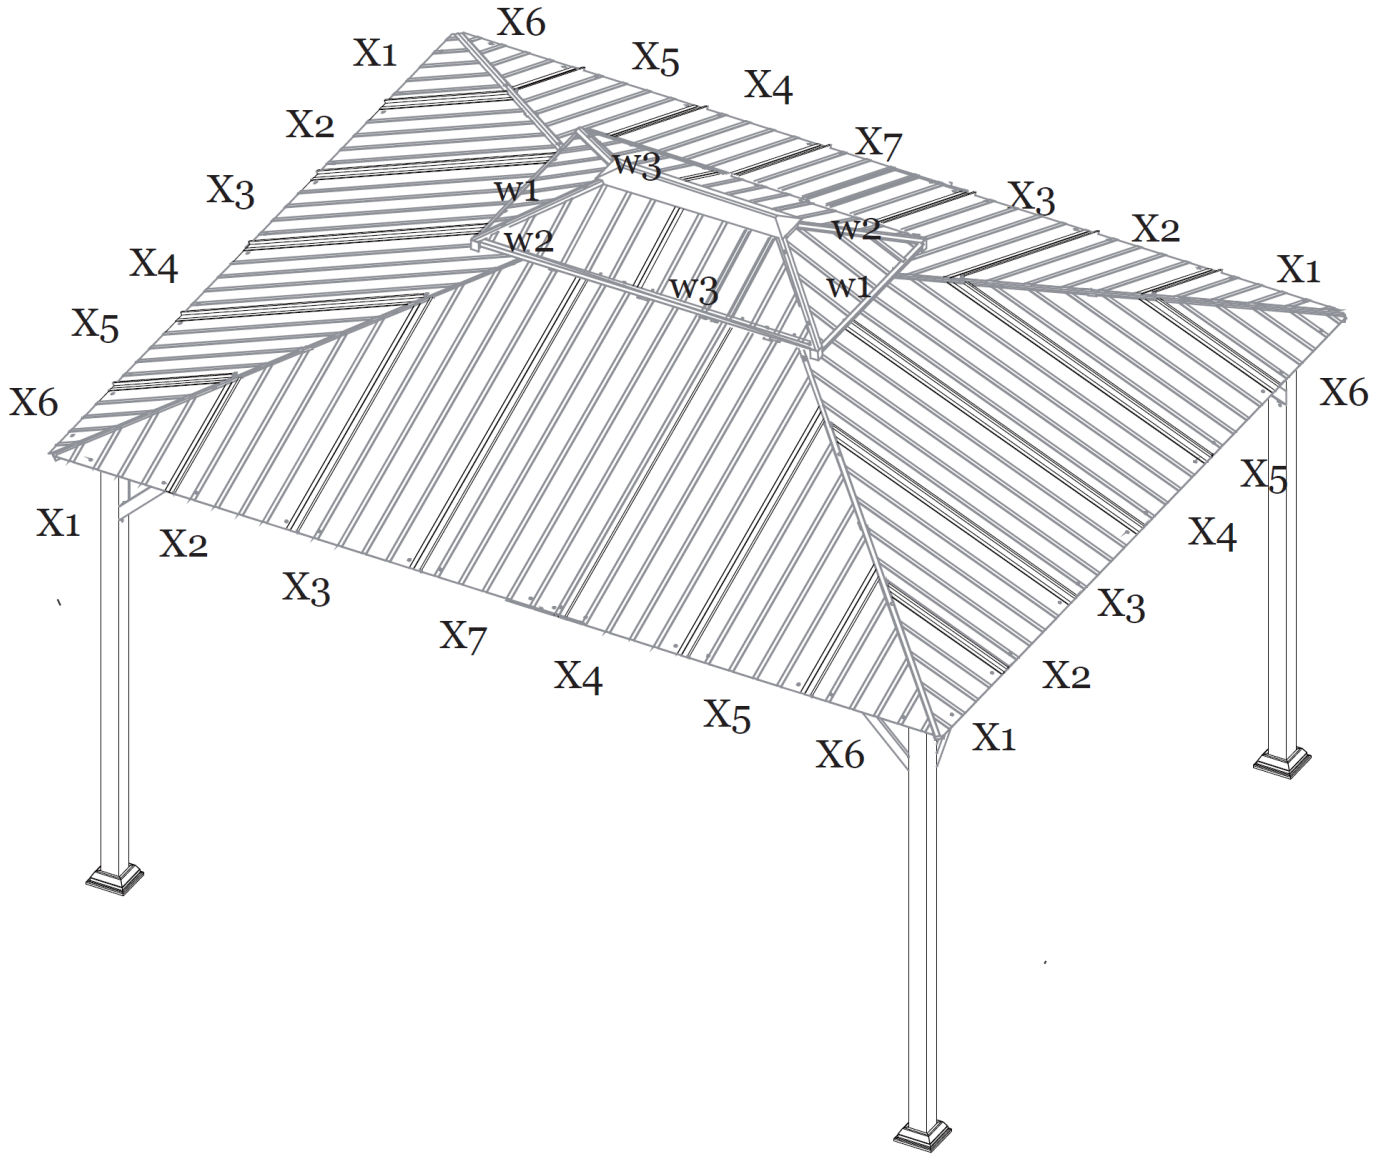

Figure 17-7
Step 17E: Tighten all Bolts. Your roof is now completely assembled. See Figure 17-7